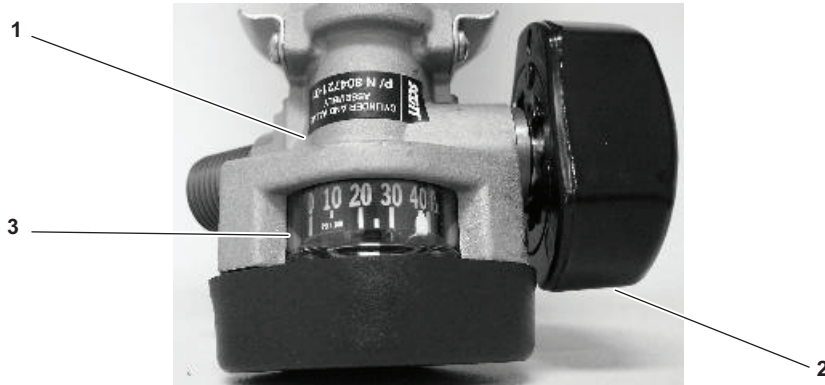
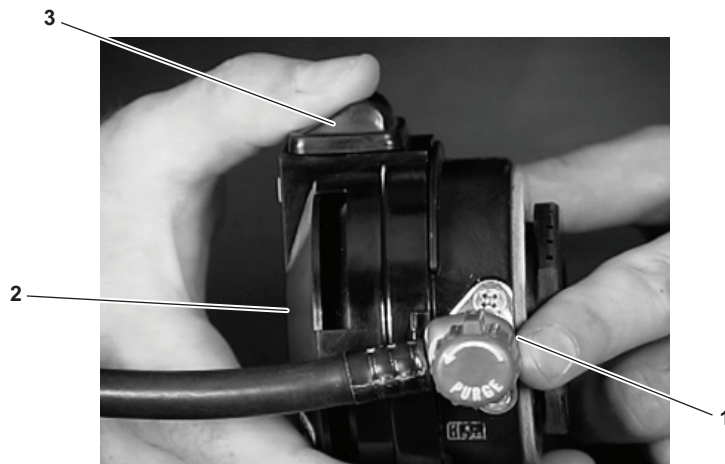
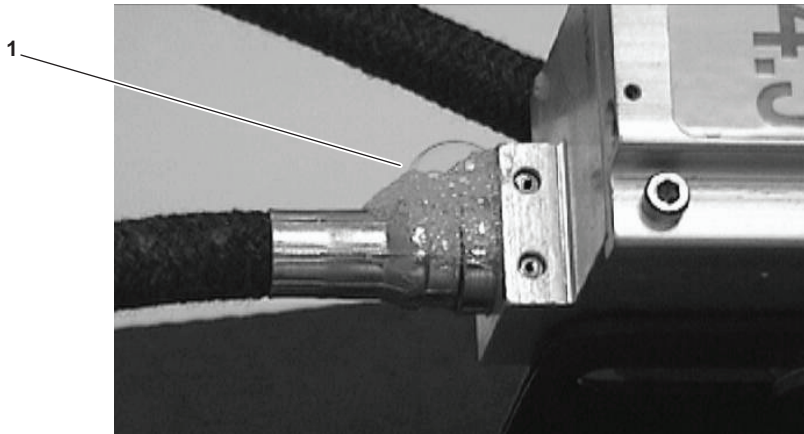

Figure 6-1. Cylinder Valve and Handwheel
Figure 6-2. Purge Valve
Figure 6-3. Bubbles Indicate Leakage
- (1) Close the cylinder valve (figure 6-1, item 1) by rotating the handwheel (figure 6-1, item 2) fully clockwise.
- (2) Open the purge valve (figure 6-2, item 1) on the mask-mounted regulator (figure 6-2, item 2) by turning it fully counterclockwise.
- (3) When airflow stops, close the purge valve (figure 6-2, item 1) by turning it fully clockwise.
- (1) Ensure that a minimum of 4,000 PSI reading is on the dual-reading pressure indicator (figure 6-1, item 3). If it is below 4,000 PSI, replace with a fully charged cylinder assembly IAW paragraph 2.3.2.1.
- (2) Ensure the air saver switch (figure 6-2, item 3) is fully depressed and that the purge valve (figure 6-2, item 1) is rotated fully clockwise until closed.
- (3) Rotate the handwheel (figure 6-1, item 2) fully counterclockwise, then back off 1/4 turn, to open the cylinder valve (figure 6-2, item 1).
- (4) Apply leak detection compound to the repaired areas.
- (5) Inspect the repaired areas treated with leak detection compound. If bubbles (figure 6-3, item 1) are present, ensure proper assembly of all components and perform the leak check again. If the leak persists, tag out (FM 4-01.502) (supersedes FM 55-502) affected components for repair.